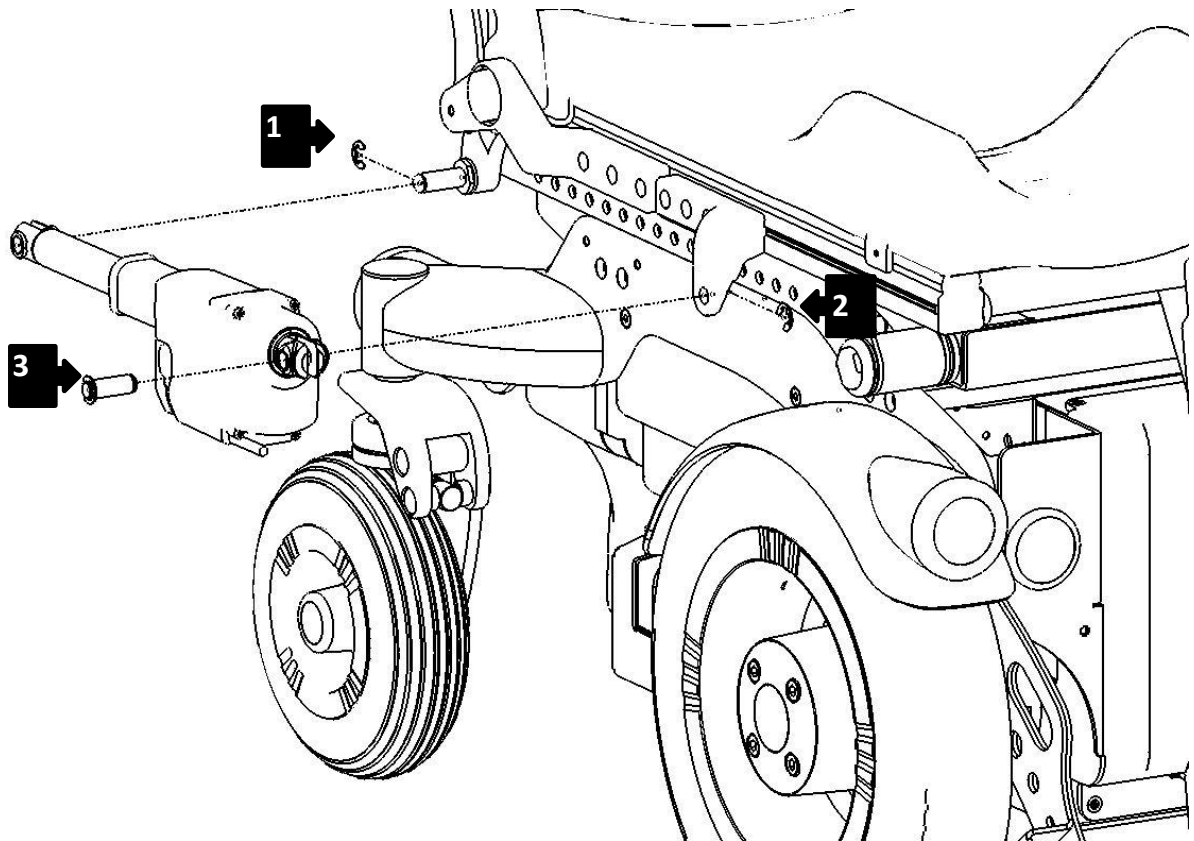

Figure 48
Remove the plastic cap form the actuator cable and unplug the cable. To remove the backrest actuator remove the parts (1), (2) and (3) shown in Figure 48 in this order and then take away the actuator